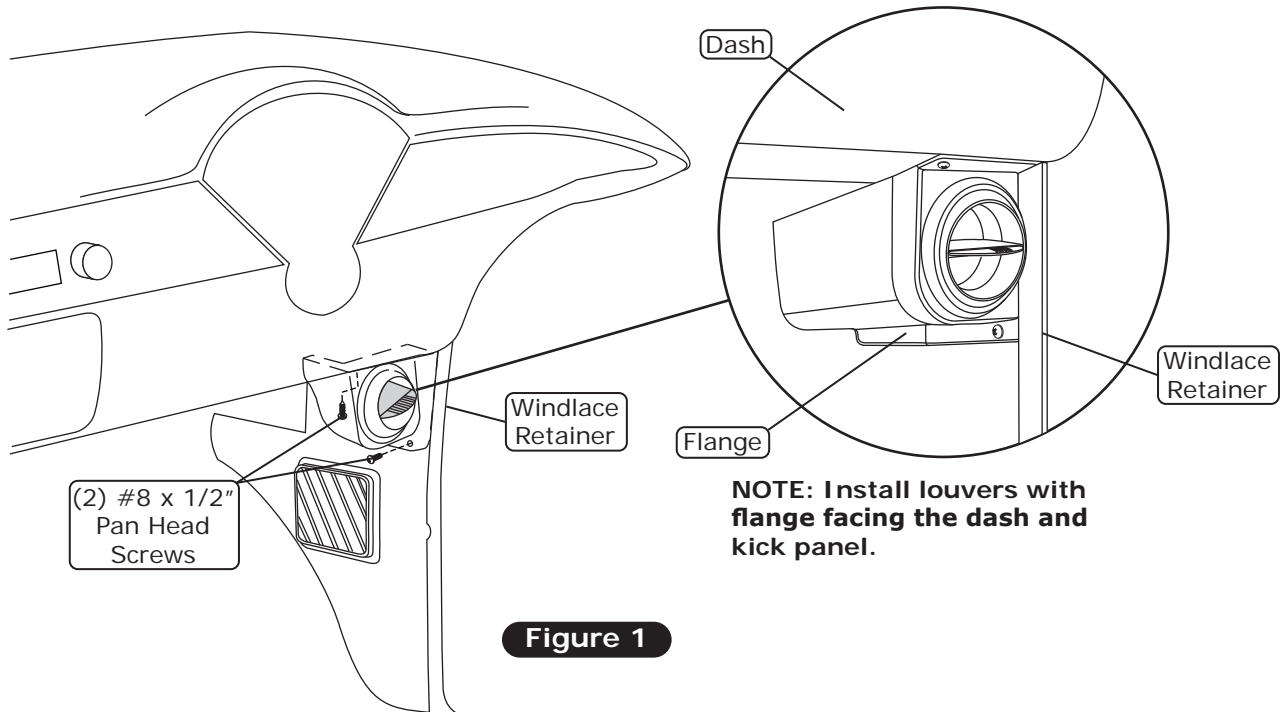

Figure 1
1. Install the driver and passenger side under dash louvers with the flange facing the dash and kick panel as shown in Figure 1, below. Tuck the kick panel side of the louver flange behind the kick panel windlace retainer, and slide the louver up until the flange is seated against the dash. Secure the louver to the kick panel with (2) #8 x 1/2" pan head screws (See Figure 1, below). **NOTE: In most cases, the louvers will fit as described. However, due to dash and kick panel variances, the presence of aftermarket components or modifications, etc., it may be necessary to trim the louver flange and/or slightly move the parking brake lever for proper fit.**